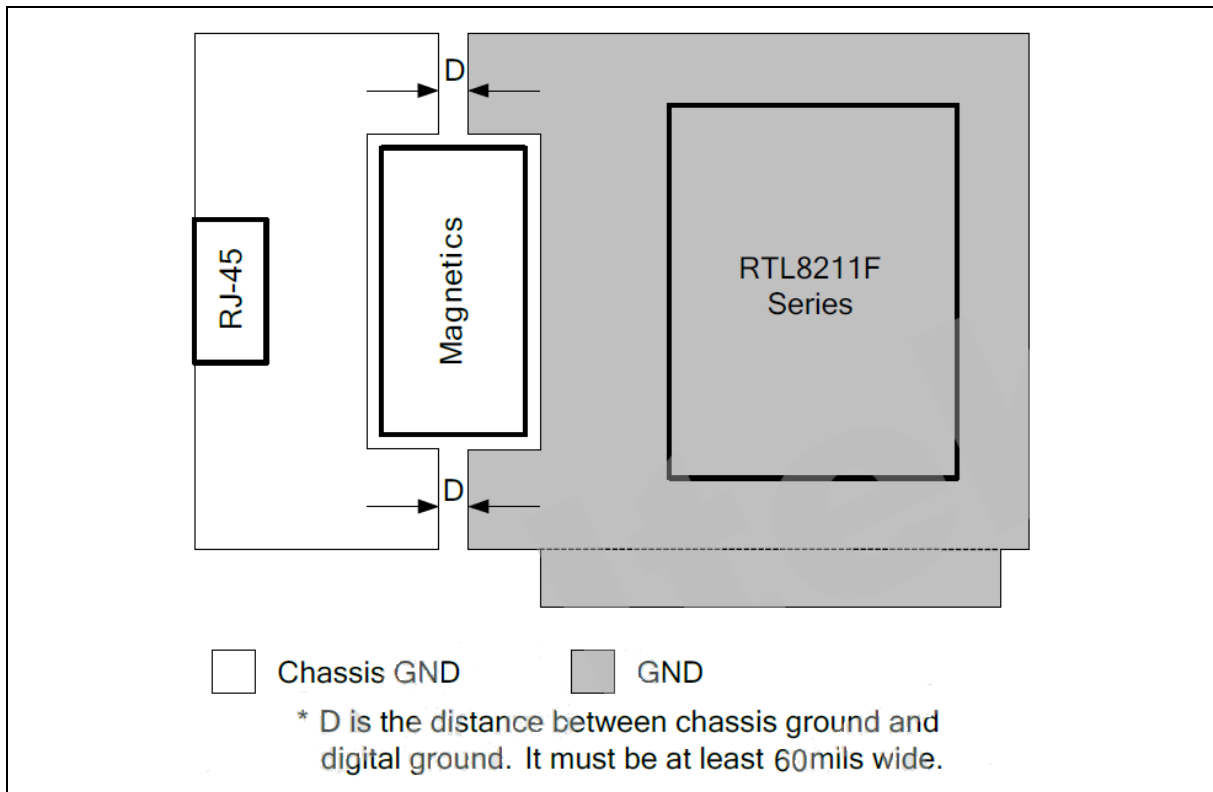

Figure 12-11 Ground Plane Separation
- The Chassis Ground as Figure 12-11 is known as an 'Isolated Ground'. It connects